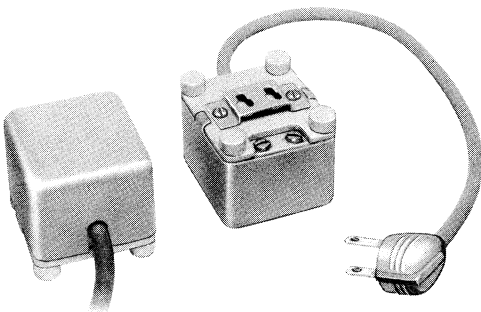

Fig. 15—2075A Transformer
8.01 The 2075A transformer (Fig. 15) supplies power (15 to 18 volts) for the 41A dial in the 660-, 662-, 663-, and 664-type telephone sets.